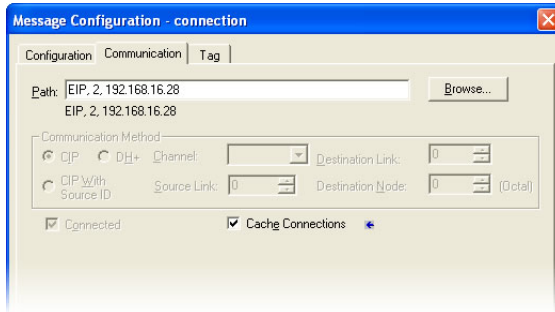

Figure 100: Setting the Communication Path
- d) "Communication" tab settings (refer to Figure 100):